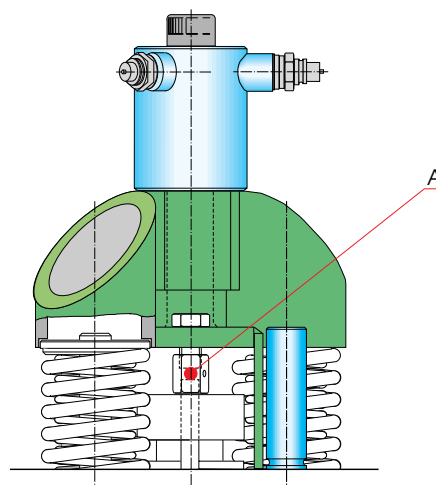

Fig 12-4
- 1 Fit the tool** 800027 according to Fig 12-4.